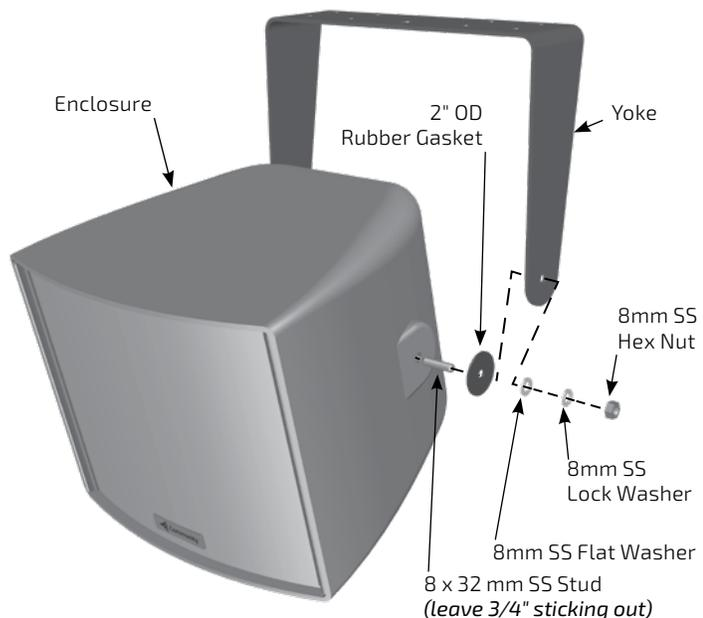

Figure 3. Mount the loudspeaker to the yoke
2. Attach the loudspeaker to the yoke. See Figure 3. Screw an 8mm stud into each side of the loudspeaker so that it protrudes about 3/4" (19mm). Place the rubber washers on the studs and then lift the loudspeaker into place between the yoke arms. Attach as shown. Support the enclosure until both sides are secured. Tighten bolts to finger tight (enough to hold the loudspeaker in position).